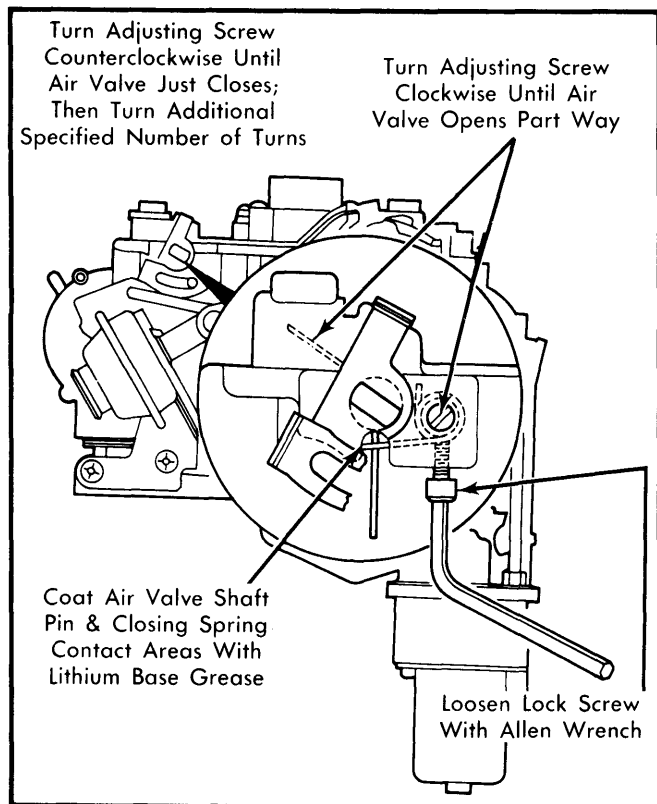

Fig. 11 Air Valve Spring Adjustment
- 1) Using an Allen wrench, loosen air valve lock screw. Using a screwdriver, turn tension adjusting screw clockwise until air valve opens part way. See Fig. 11.